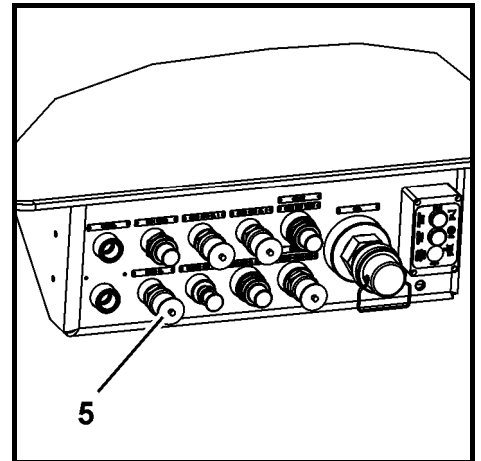

Fig. 3
Bring the engine to operating temperature, and drain the oil via the quick change coupling in the service center (Fig. 3, pos. 5).